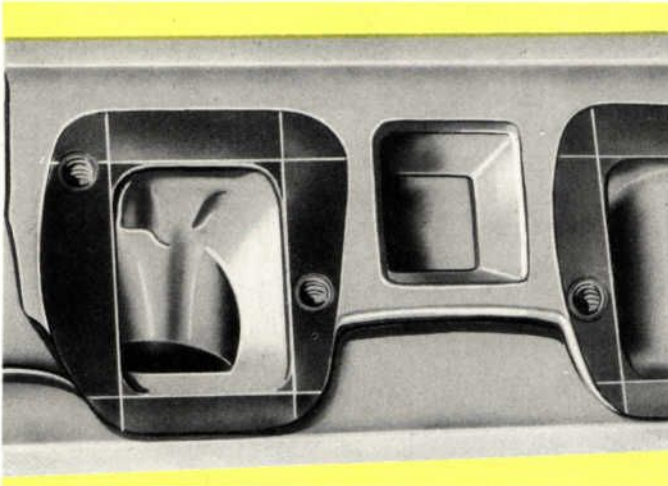

FIGURE 65. PORTING AND POLISHING
- When enlarging the ports, try to round the cross-section shape and make the passages as straight as possible. (See Figure 65.)